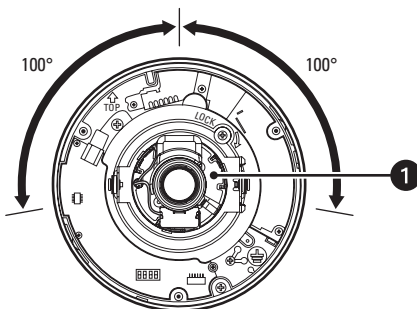

Figure 37. Adjusting the Azimuth Angle (Color Model Shown)
5. Rotate the azimuth adjuster (± 100 -degree range) to adjust the azimuth angle of the image (refer to Figure 37).